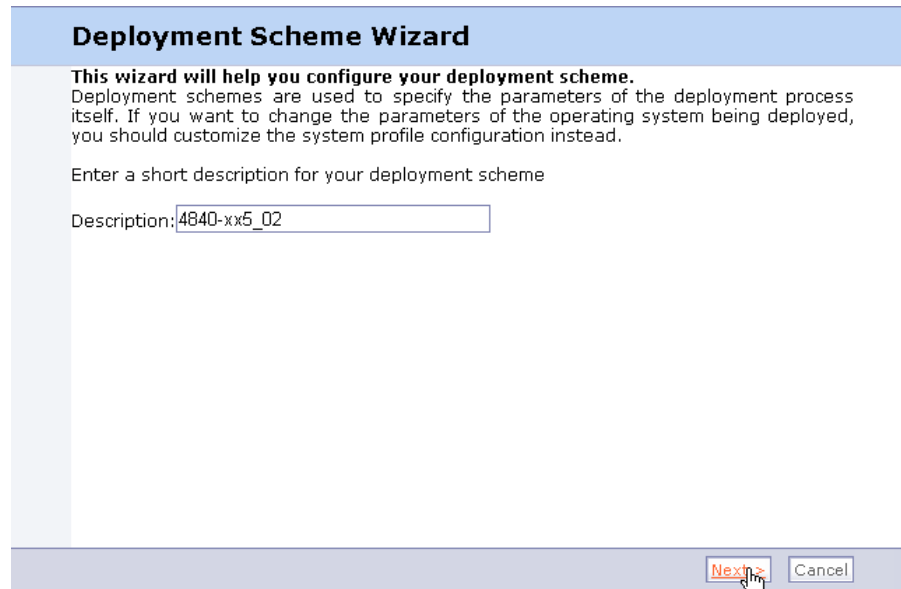

Figure 2-38 Adding a descriptive name for the deployment scheme
2. Select a name for the deployment scheme as shown in Figure 2-38 on page 44.